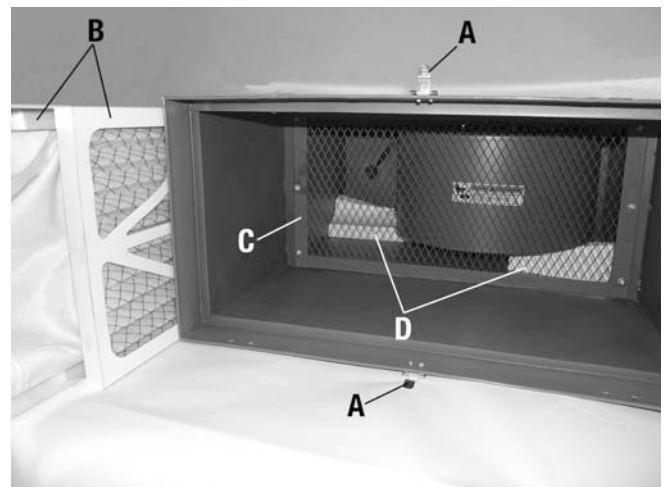

FIGURE 4
- 1) Pivot the upper and lower filter retaining clips (A) Fig.4 and pull out the outer and inner filters (B).
- 2) Remove the steel meshing (C) inside the air cleaner and remove the styrofoam blocks (D).